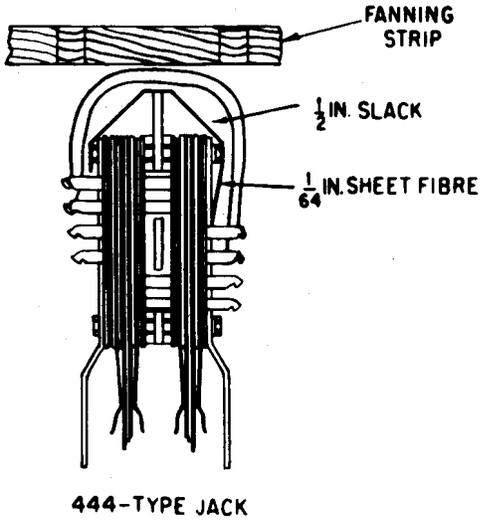

Fig. 10—Class NP Conductors—Cable Facilities Terminated on 444-Jacks Requiring Straps on Jack Contacts—Holes in Fanning Strip Blocked
6.18 Should the holes in the fanning strip become crowded due to the use of shielded conductors and shielded cross-connections, straps may be run as shown in Fig. 10. Prior to running straps without using the fanning strip, a 2-inch by 6-inch gray fiber sheet is used to insulate the straps from the steel framework. On new facilities, where there is no interference from existing jumpers, gray fiber, 6 inches by 7 inches wide, may be inserted between the horizontal members of the supporting framework. Both the 2-inch wide or the 7-inch wide fiber will be held in place by the straps which should be run with approximately 1/2 inch slack.